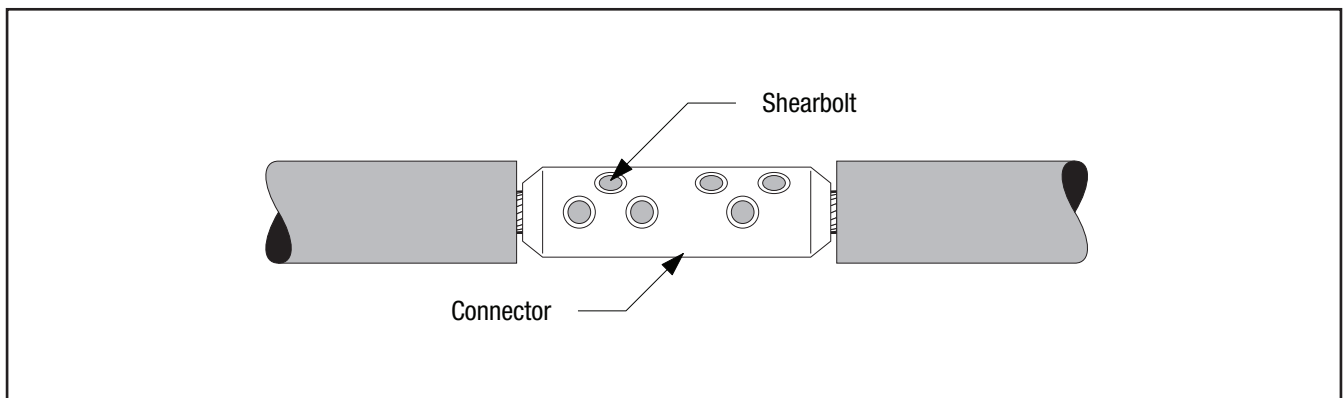

Figure 5
- 3.2** Install 3M Shearbolt Connector QCI 350-750 according to the instructions included with the connector (Figure 5).